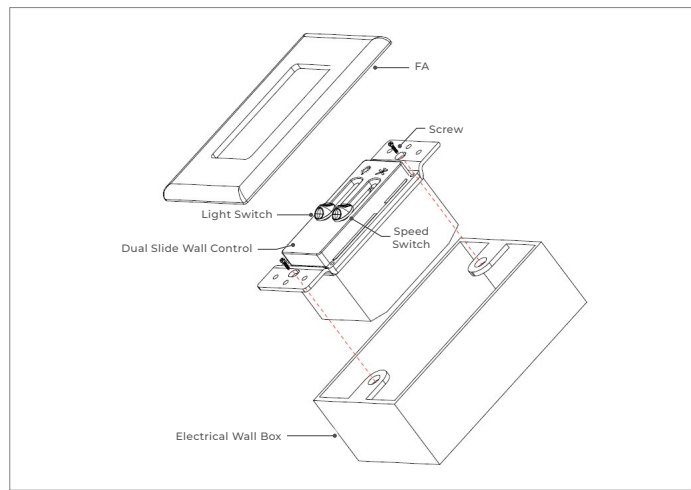

FIGURE 3
**F)** Secure the WS wall-mounted control to the electrical wall box with two screws provided. (Figure 3)